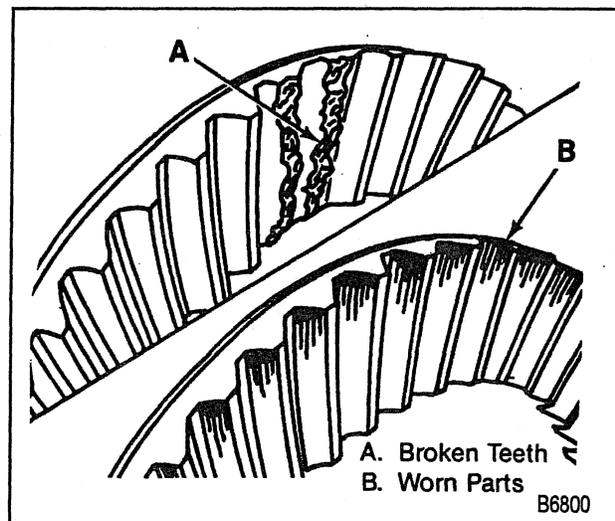

Figure 1—Causes of Gear Noise
**Gear Noise** - There are two basic types of gear noise. The first type is produced by broken, bent, or forcibly damaged gear teeth, which is usually quite audible over the entire speed range, and presents no difficulty in diagnosis. For example, hypoid gear tooth scoring generally results from the following: insufficient lubricant, improper break-in, wrong lubricant, insufficient gear backlash, improper ring and pinion alignment, or loss of drive pinion nut torque. The scoring will progressively lead to complete erosion of the gear tooth or gear tooth pitting and then eventual fracture if the initial scoring is not corrected (Figure 1). Another cause of hypoid gear fracture is extended overloading of the gear set, which will produce fatigue fracture, or shock loading, and can result in sudden failure.